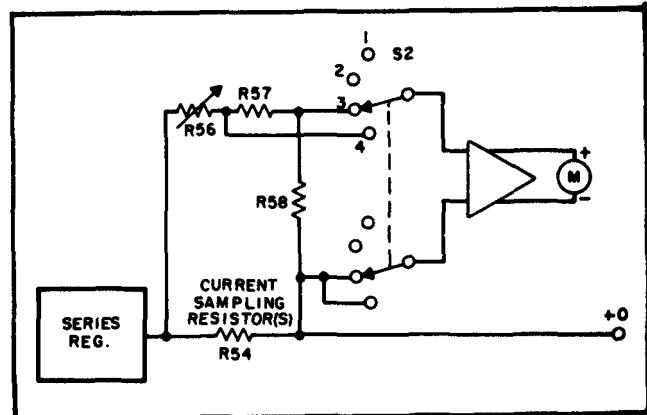

Figure 4-4. Ammeter Connections,
4-41 As illustrated in Figure 4-4 with the METER switch in the high current position (3) the voltage drop across R58 is applied to the meter amplifier and the meter indicates the output current which flows through the sampling resistor network. For low values of output current, the METER switch can be set to position 4 and the voltage drop across R57 and R58 is applied to the meter amplifier.